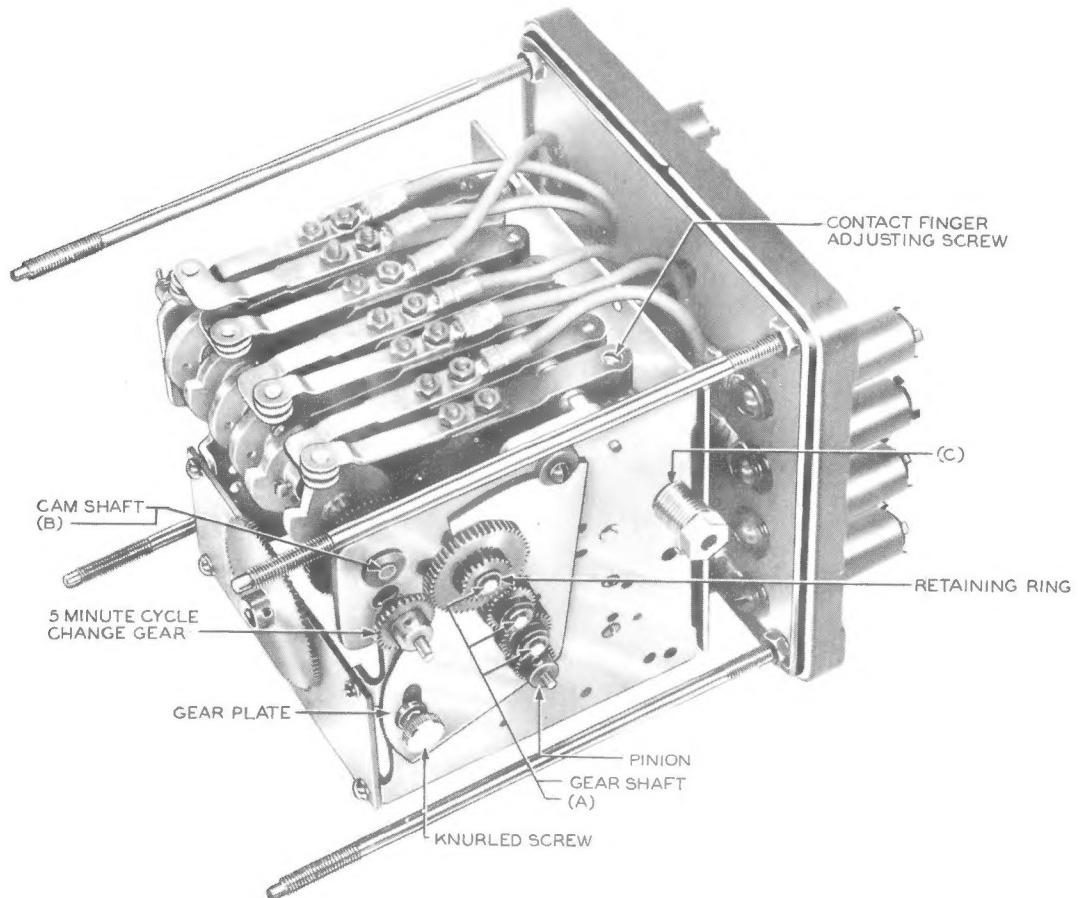

Fig. 2 — KS-15513 Time-delay Relay
- (1) Fig. 2(A) — Gear shaft at bearings (three points).
- (5) Fig. 2(B) — Camshaft at right bearing.
(8) Fig. 2(C) — Lift plate at right bearing.